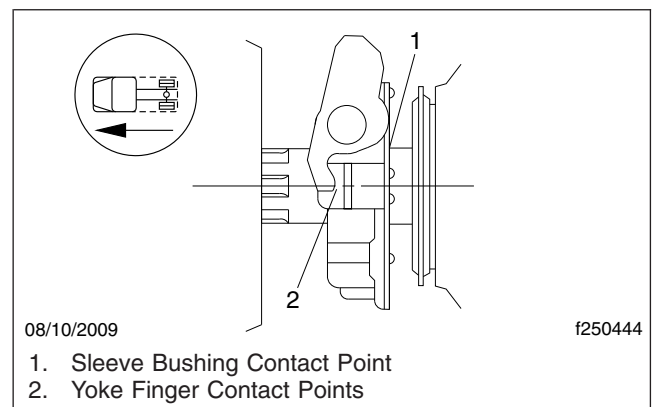

Fig. 2, Grease Contact Points
4. Wipe off excess grease and apply it to both the yoke finger and sleeve bushing contact points. See Fig. 2.